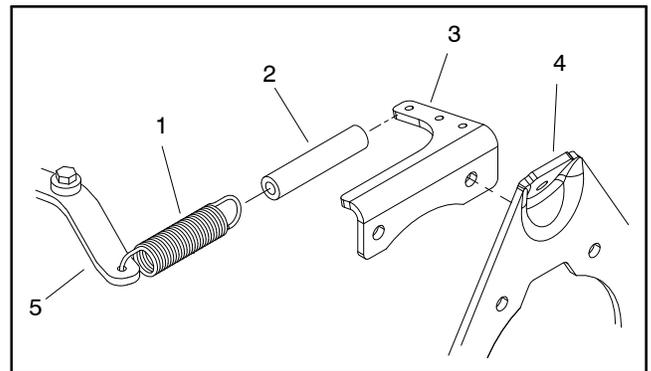

Figure 44
3. Disconnect one end of the extension spring attached to the neutral arm (Fig. 44).
4. Remove two (2) cap screws (item 10), flat washers (item 9), coupling spacers (item 7) and lock nuts (item 6) that secure pump hub to rubber coupling (item 8).
7. Clamp pump inlet hose (item 4) to prevent draining the hydraulic reservoir.
4. If removed, secure hub (item 1) to piston pump shaft:
B. Position key (item 39) to pump shaft.
D. Slide hub onto pump shaft and secure with spacer (item 28) and cap screw (item 29). Torque cap screw from **27 to 33 ft-lb (37 to 44 N-m)**.
7. Position pump assembly to pump adapter on engine and align pump hub with rubber coupling (item 8). Secure pump assembly to pump adapter with two (2) cap screws (item 17), lock washers (item 16) and flat washers (item 3).
8. Secure pump hub to rubber coupling (item 8) with two (2) cap screws (item 10), flat washers (item 9), coupling spacers (item 7) and lock nuts (item 6).
9. Connect the extension spring to the neutral arm (Fig. 44).